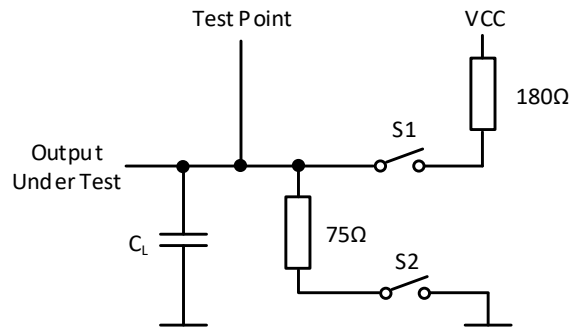

Figure 1. Switch Characteristic Test Circuit
3. The test circuit is shown in figure 1. C_L includes parasitic capacitance of prod and socket. Input signal is from waveform generator, and it should meet the following demands: $PRR\leq 1MHz$, $Z_o\approx 50\Omega$, $t_R\leq 15ns$, $t_F\leq 6ns$. Each enable terminal is tested alone.